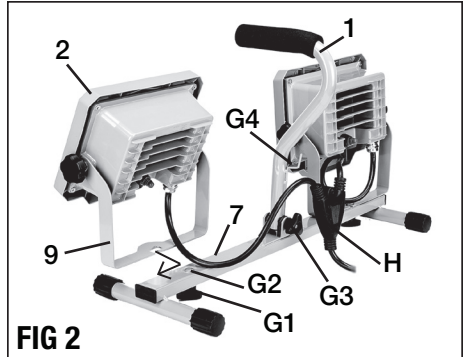

FIG 2
ATTACHING WORK LIGHT HEADS TO STAND (FIG 2)
1. Place the stand (7) on a flat surface.
2. Rotate the carrying handle (1) straight up. Tighten the handle locking knob (G3) to secure it in place.
3. Install one work light head (2) on the stand (7) by sliding and positioning the U-shape bracket (9) under the bolt cap (G2) as shown in FIG 2. Tighten the locking knob (G1) to secure the work light head in place. Repeat the procedure on the second work light head.
4. Hang the power cable splitter (H) on the hook (G4).